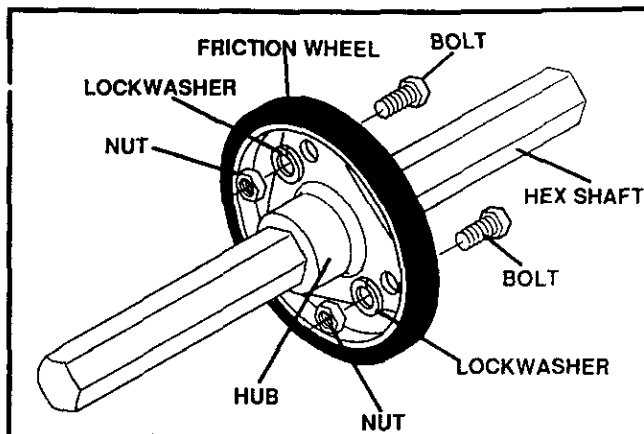

FIG. 14
- Remove the three (3) fasteners securing the friction wheel to the hub (See FIG. 14), and set fasteners aside.